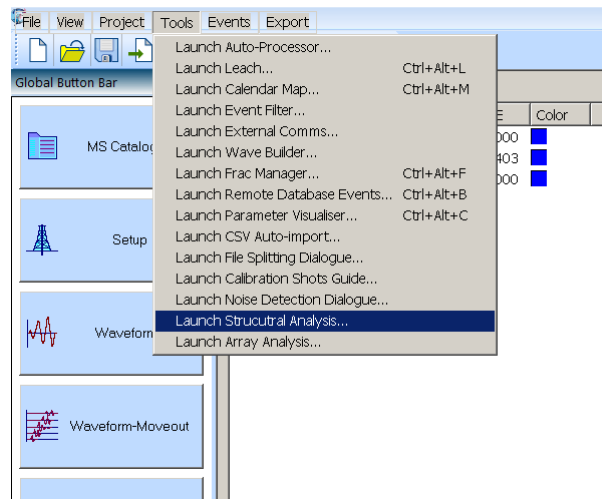

Figure 15-3: Tool Menu to Launch the Structural Analysis Tool.
2. Launch the structure analysis tool (Figure 15-3): from the Data Visualiser go to Tools >Launch Structural Analysis Tool, which will launch the configuration menu.